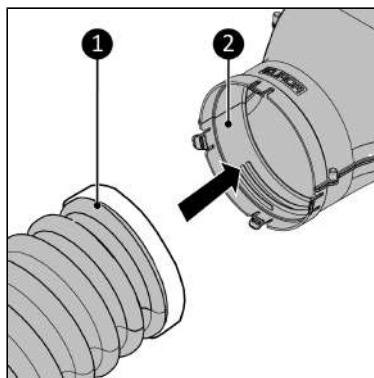

Figure 104.
- With a click system, for a hose with a collar (Figure 104, pos. 1).
1. Insert the air conditioning hose (Figure 104, pos. 1) into in the main body (Figure 104, pos. 2).